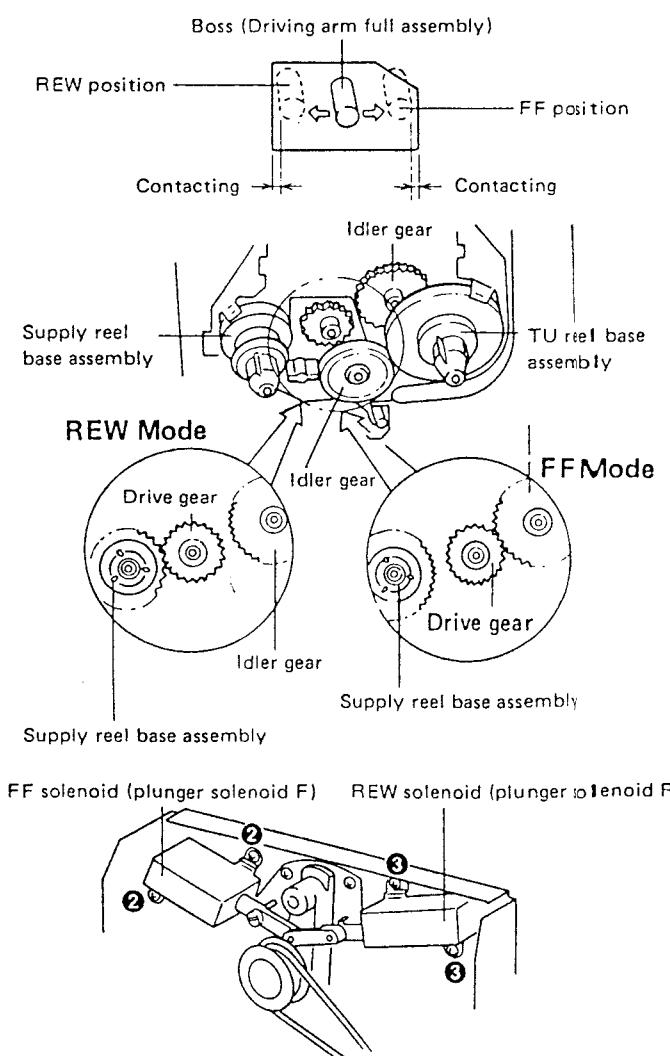

Fig. 12-6 FF and REW solenoid adjustment
2. Loosen screw ② and adjust the mounting position of the FF solenoid (plunger solenoid F) so that the square hole in the full reel base assembly is flush against the boss of the full drive arm assembly. (See Fig. 12-6)
2. Loosen screw ③ and adjust the mounting position of the REW solenoid (plunger solenoid R) so that the square hole in the full reel base assembly is flush against the boss of the full drive arm assembly. (See Fig. 12-6).